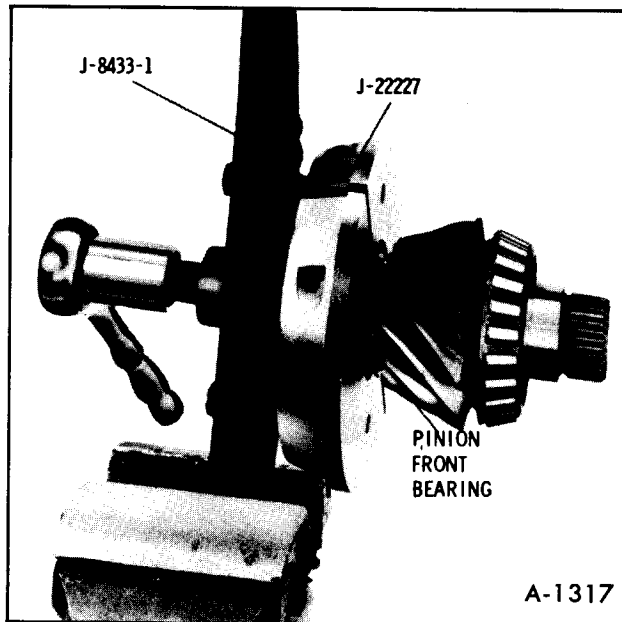

Figure 29—Removing Pinion Front Bearing
1. Remove the pinion front bearing and selective shim as shown in Figure 29. Bearing can be removed without Tool J-8433-1 if a press is available.